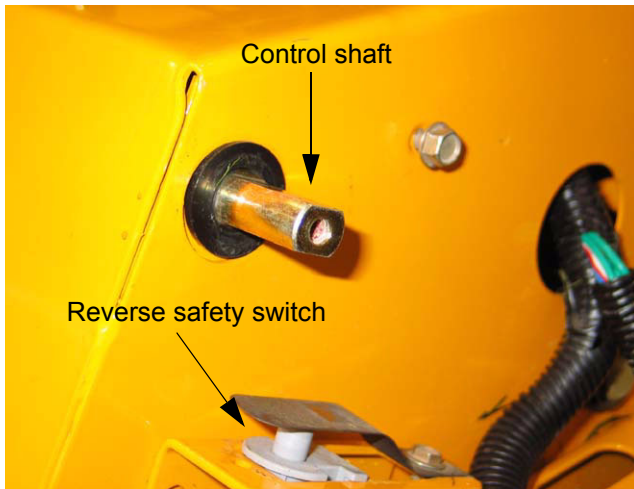

Figure 13.7
13.7. Pull the control hub off the control shaft. See Figure 13.7.